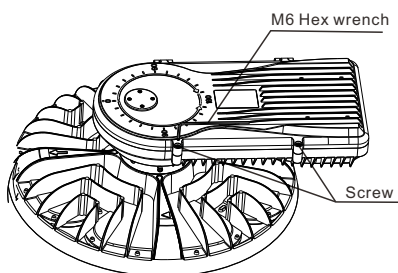

Figure 2
- The LED driver can be replaced or repaired by opening the driver box, Figure 2;